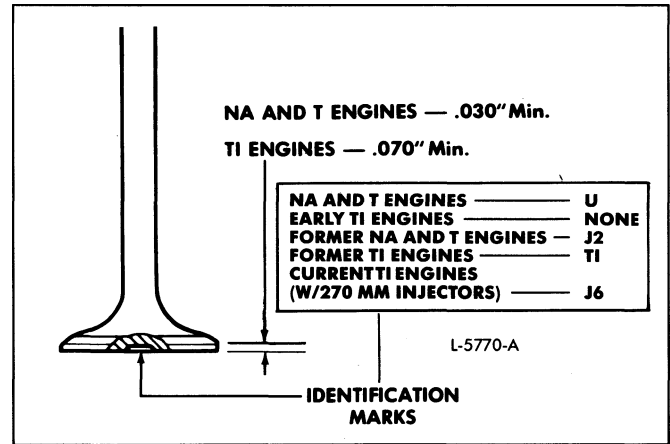

Fig. 13 - Exhaust Valve Re grind Limits and Identification Marks
- The Pyromet valve is identified by the letter "U" forged in the center recess of the valve face (Fig. 13). The former Inconel valve was identified by "J," "J2," or "J4," while the Inconel-Stellite valve had a "TI" or "J6" identification.